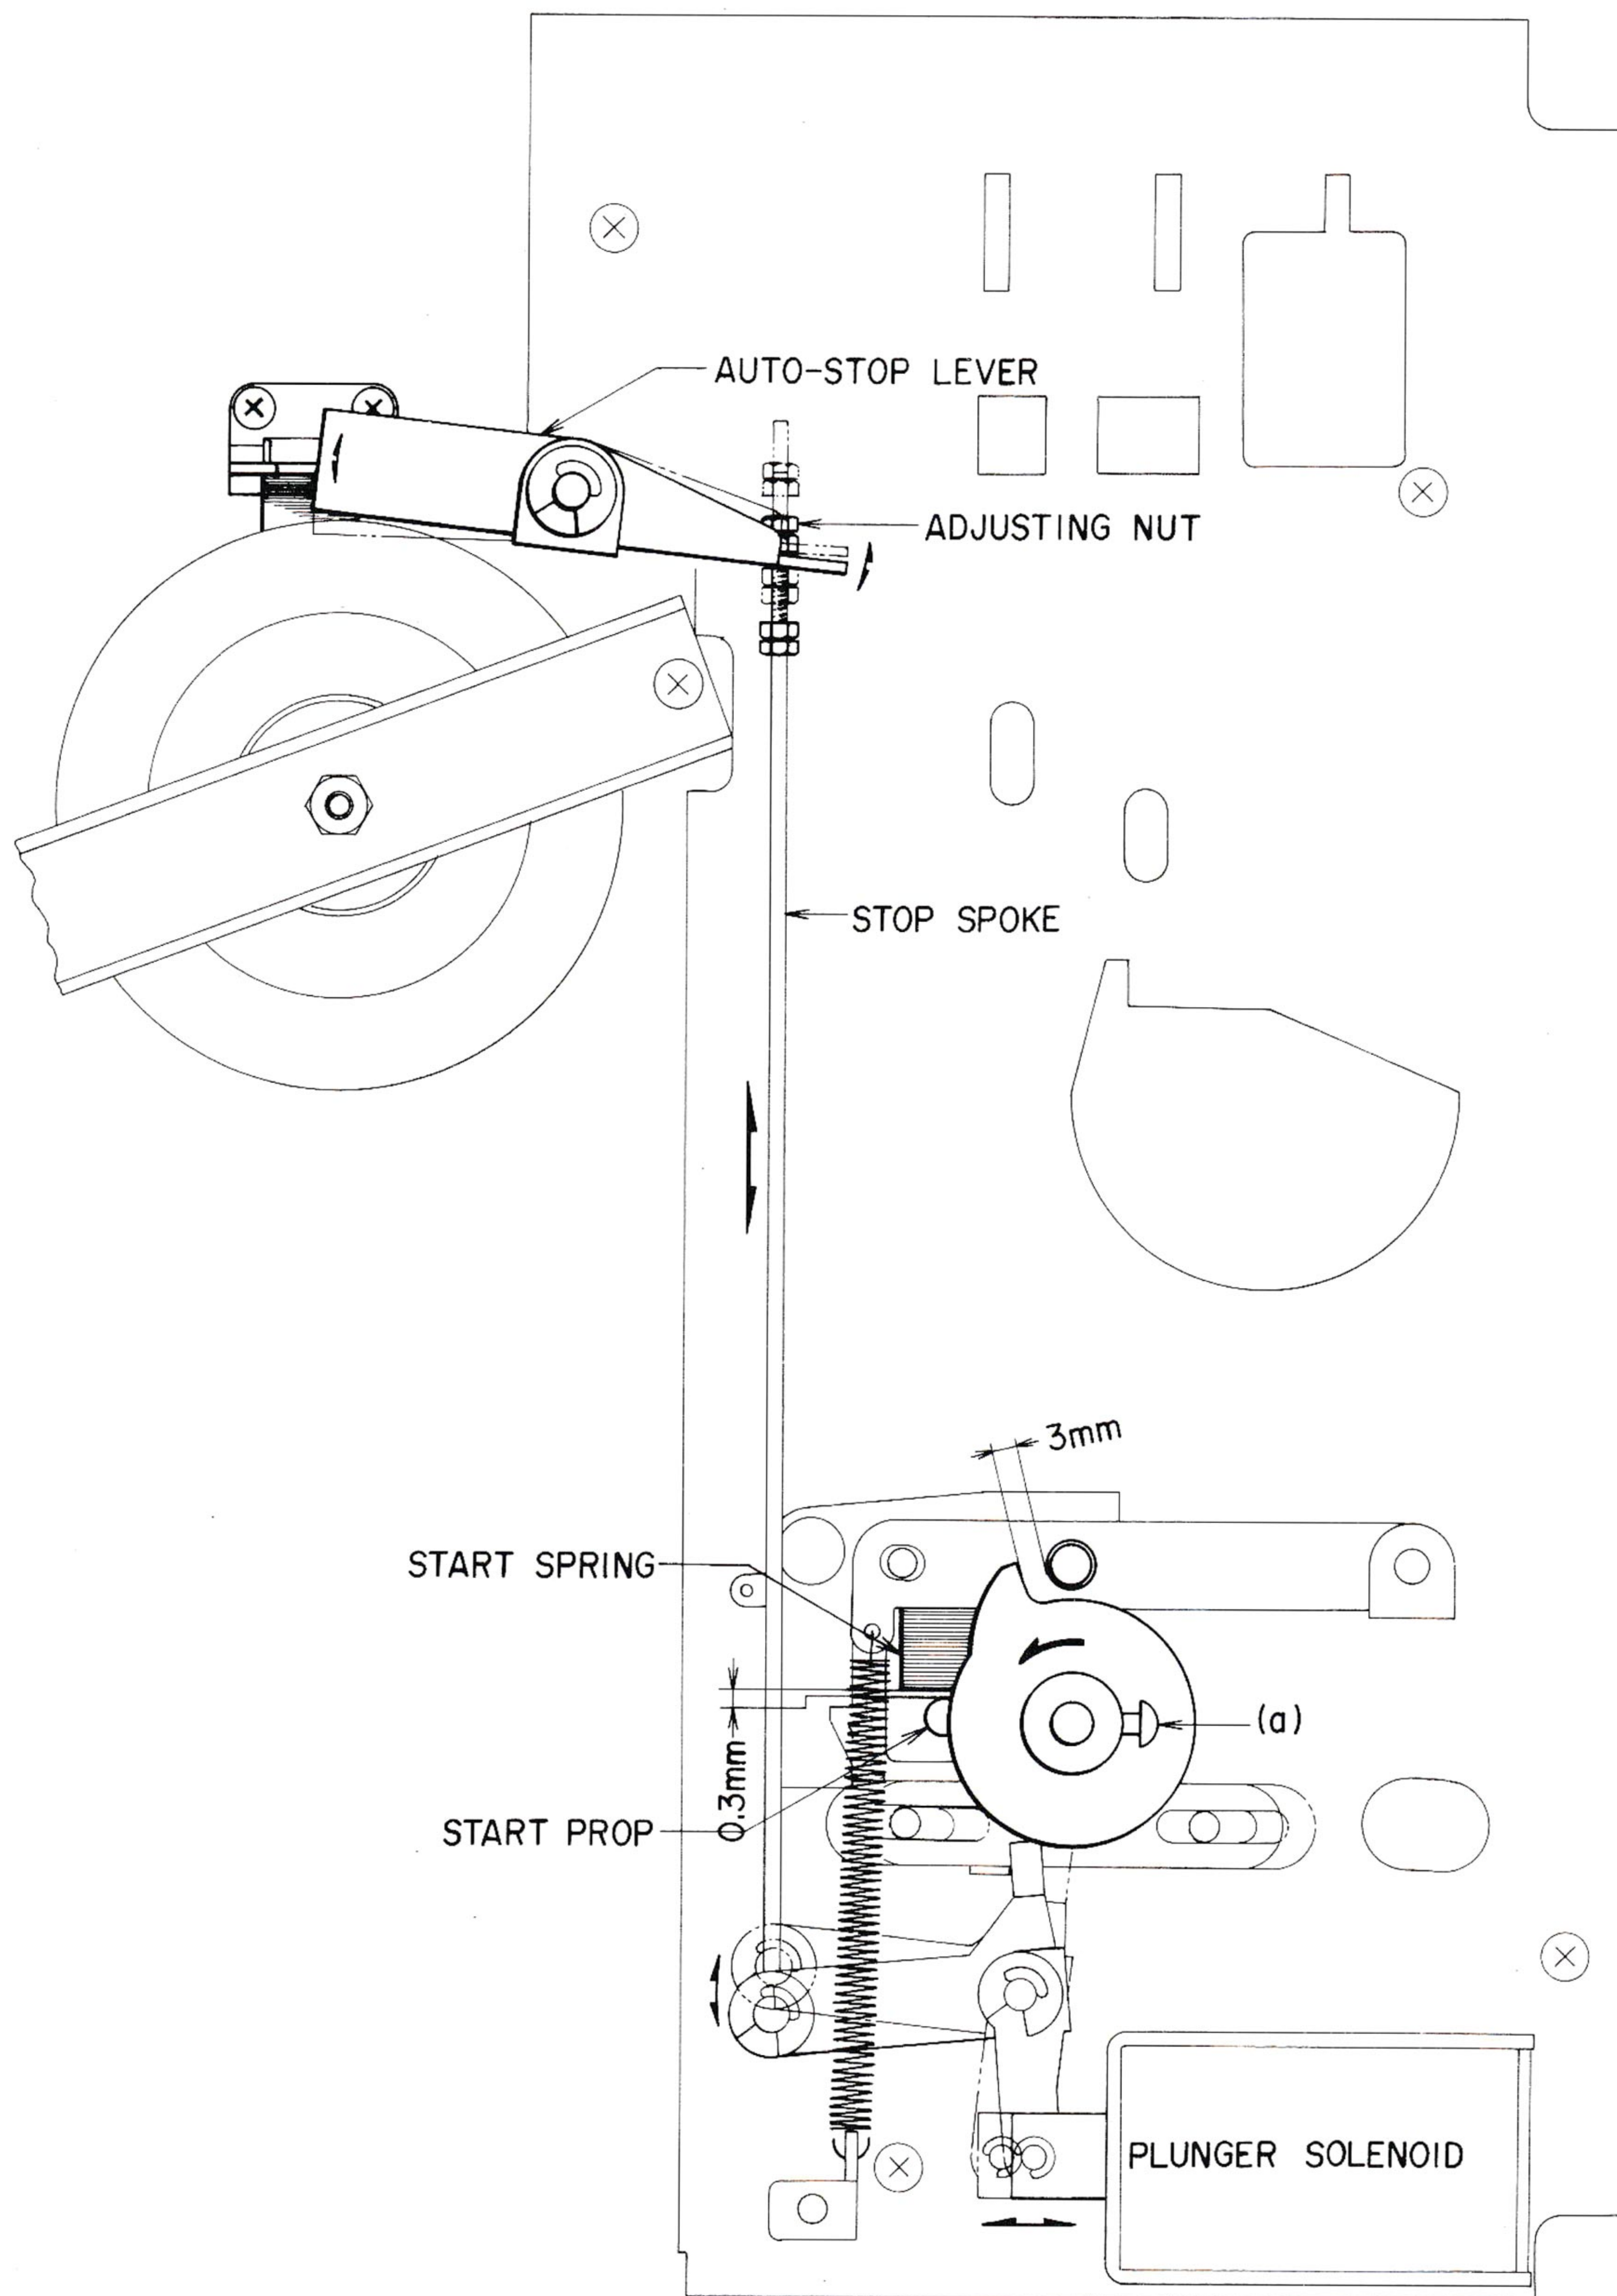

Fig. 7
- 5-1 STOP SPOKE ADJUSTMENT (See Fig. 7)